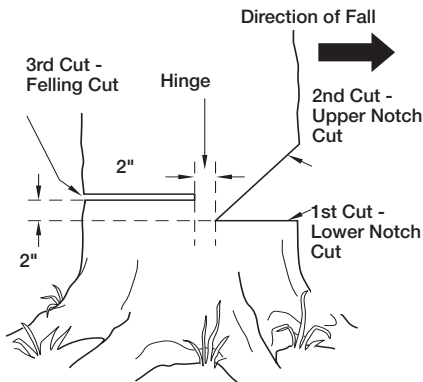

Figure 12 - Felling A Tree
A properly placed felling notch will determine direction tree will fall. Place felling notch on side of tree in direction you want tree to fall (see Figure 12). Follow directions below to create a felling notch.
1. Make lower notch cut as close to ground as possible. Hold saw so guide bar is horizontal. Cut 1/3 the diameter of tree trunk (see Figure 12). Note: Always make this horizontal lower notch cut first. If you make this cut second, tree can pinch chain or guide bar.
Example: If lower notch cut is eight inches deep, start upper notch cut eight inches above it. Cut downward at 45° angle. The upper notch cut should meet end of lower notch cut (see Figure 12).
1. Make felling cut two inches higher than lower notch cut and on opposite side of tree (see Figure 12). Keep felling cut parallel to lower notch cut.
**⚠ WARNING: Do not cut all the way through tree. Leave about two inches of tree diameter uncut directly behind felling notch (see Figure 12). This uncut portion acts as a hinge. The hinge helps keep tree from twisting and falling in wrong direction.**